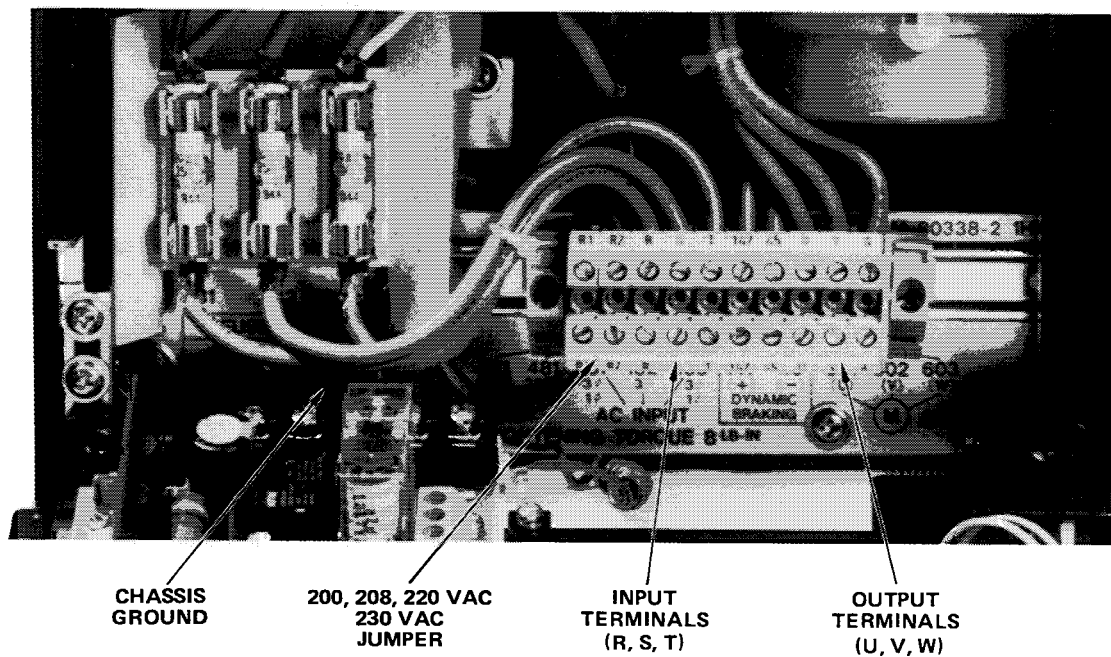

Figure 2-2. Basic wiring locations (1 HP).
Connect a suitable equipment grounding conductor or bonding jumper unbroken from the chassis ground terminal (**Figure 2-2, 2-3, or 2-4**) to the grounding electrode conductor (earth ground).
Figures 2-2, 2-3 and 2-4 show the location of power wiring in the 1 HP, 2 HP, and 3 – 5 HP controllers respectively. With the controller vertically mounted, the A-C input leads to terminals 181, 182, and 183 should enter through the bottom left hole. The A-C output to the motor from terminals 601, 602 and 603 should enter through the bottom right hole. The center hole is for external control wiring when used. **Figure 2-5** shows a typical interconnection diagram for a controller with the All Function Local Operator's Control Station. For a Remote Operator's Control Station, refer to **Figure 2-6** for a typical interconnection diagram.
5. Check to see that the controller cabinet is connected to earth ground. (Refer to **Figures 2-2, 2-3 and 2-4**).